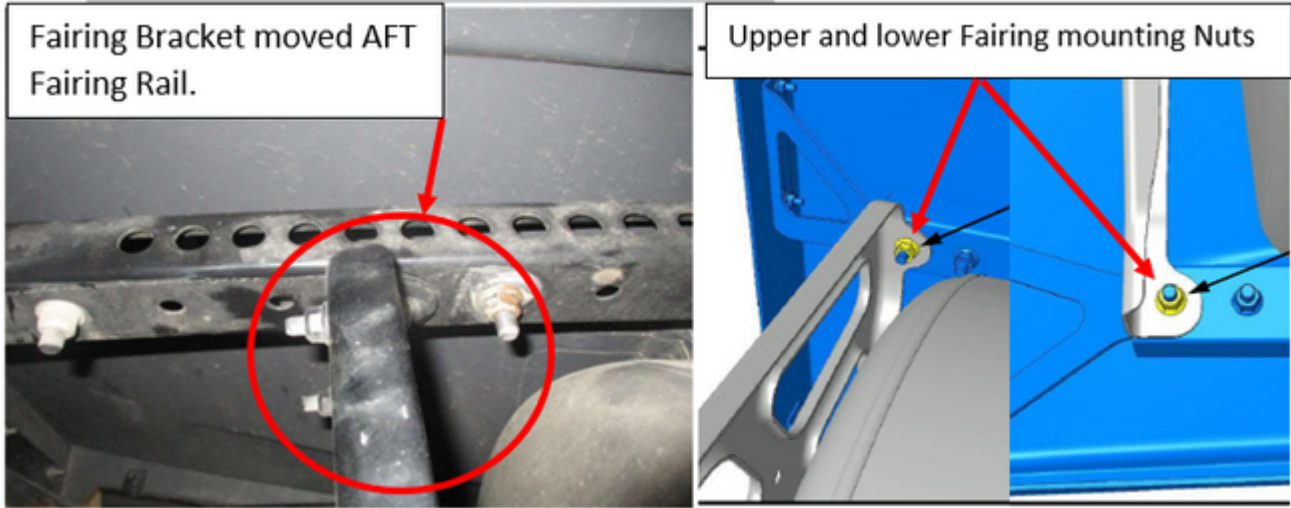

Figure 5: Relocation of Fairing Bracket AFT in Fairing Rail.
i. Remove Item 10 lower and upper mounting Nuts, and position the Fairing Bracket AFT in the Fairing Rail as shown in Figure 5. Reinstall Nuts, torque Nuts to 47 (+/- 5) N*m (35 (+/-4) Lb*Ft) and proceed to next step.
ii. Remove upper and lower Nuts Item10 from Fairing Rail and reinstall Fairing Bracket in its new position as shown in Figure 5, torque Nuts to 47 (+/- 5) N*m (35 (+/-4) Lb*Ft).